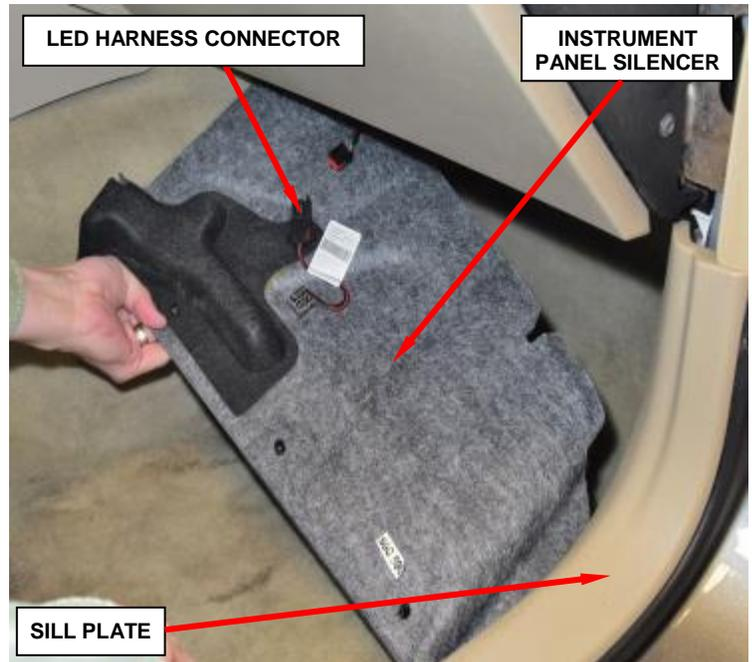

Figure 24 – Instrument Panel Silencer
- b. Remove the right side sill plate (Figure 24).
- c. Remove the three pushpins that secure the instrument panel silencer to the instrument panel (Figure 24).
- d. Disconnect the harness connector(s) and remove the right side instrument panel silencer (Figure 24).